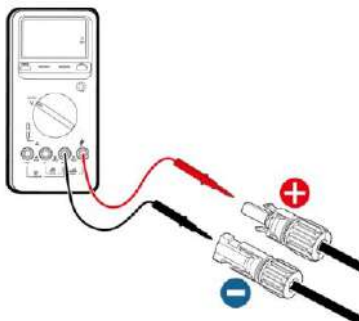

Figure 4.16 DC input voltage measuring
- (3) After the DC connector is connected, use a multimeter to measure the voltage of the DC input string, verify the polarity of the DC input cable, and ensure that the voltage of each string is within the allowable range of the inverter, as shown in Figure 4.16.